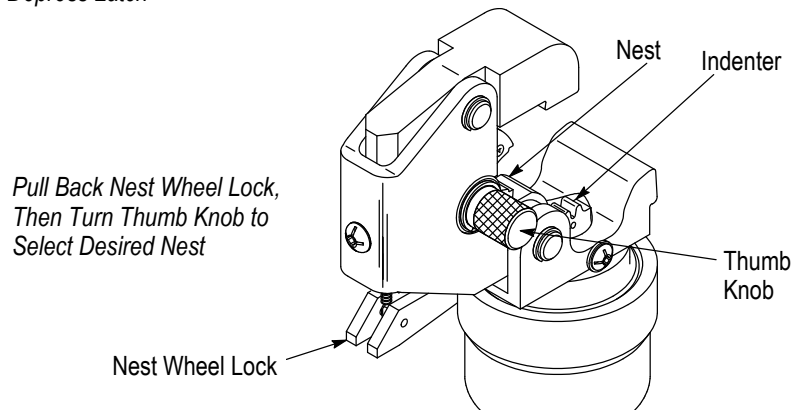

Figure 2
1. Depress the latch and open the crimping head as shown in Figure 2.